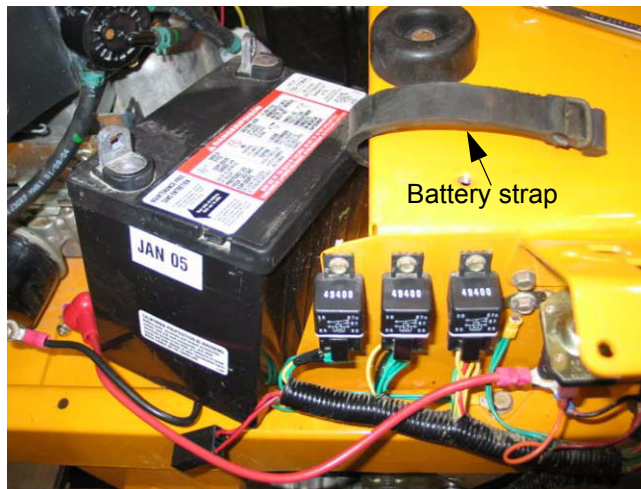

Figure 11.10
11.10. With the right side console removed the battery will slip out the side easily. See Figure 11.10.